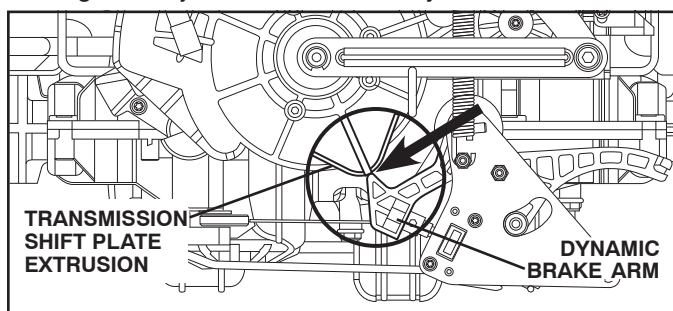

Fig. 35
- Move the shift plate on front of transmission so that the extruded area centerline is in line with the dynamic brake arm. (See Fig 35)